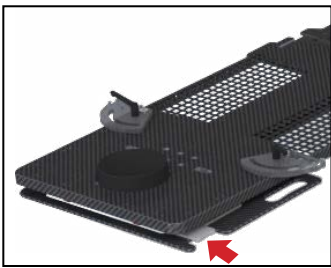

Fig. 1
1. Press in on release to unlock (Fig. 1).